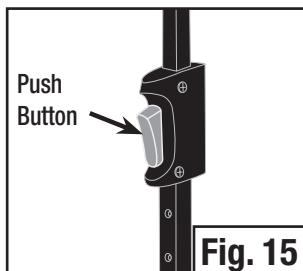

Fig. 15
- Lower the frame one post at a time by pressing the push button locks located on lower portion of posts. (Fig. 15)